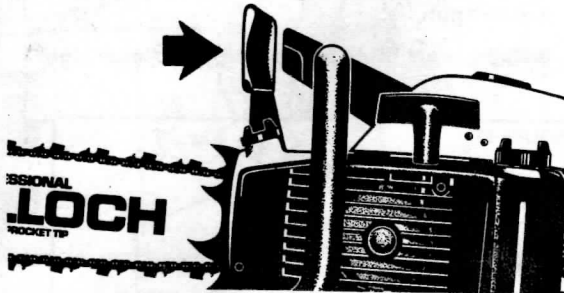

FIGURE 14
1. The **CHAIN BRAKE** is disengaged (the chain can move) when the brake lever is pulled back and locked. Provided the chain tension is correct, you should be able to pull the chain around the bar by hand. (Figure 14).